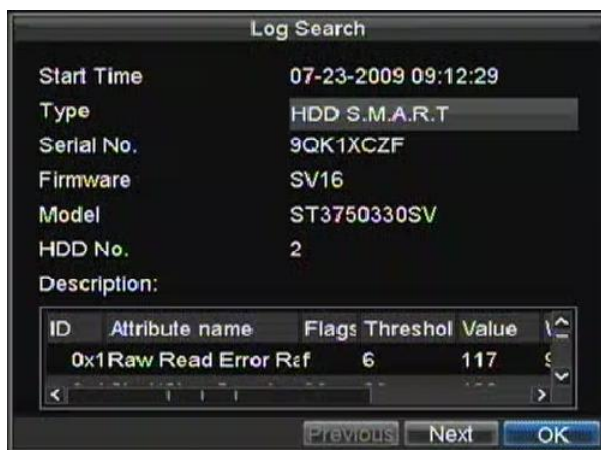

Figure 6. SMART Information
7. A detail listing of SMART information, as shown in Figure 6 will be displayed.